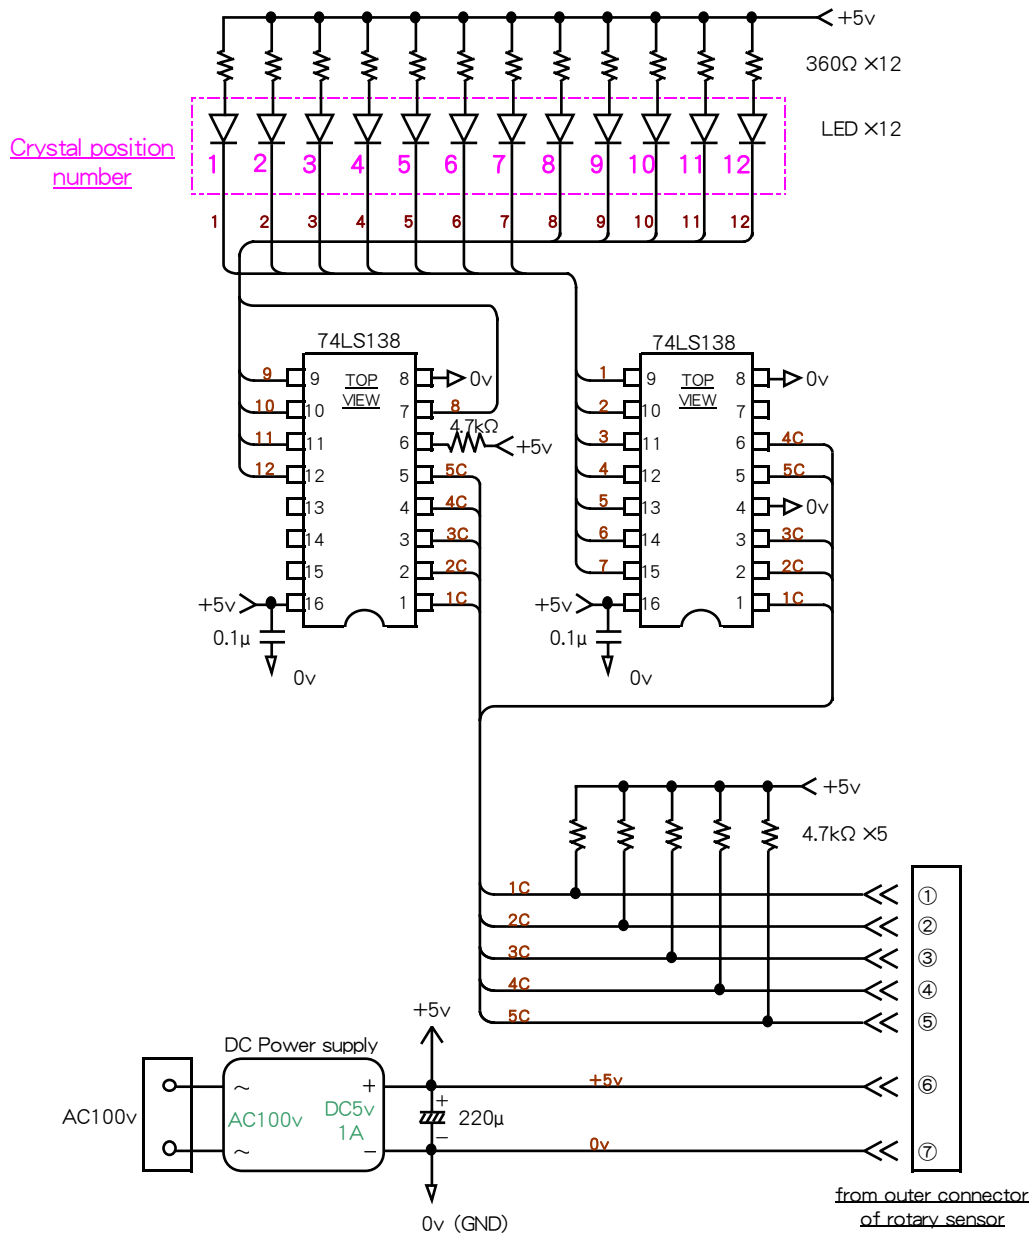

Fig 7 Quartz crystal position indicating circuit (for reference)
- ☞ Fig 7 Quartz crystal position indicating circuit (for reference)